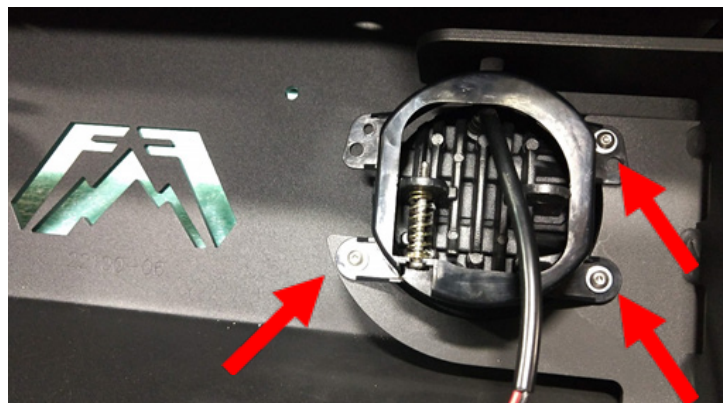

Figure 7
14. Using an 11/32" open end wrench, 3/32" Allen wrench, and three (3) of the provided #8-32 bolts, flat washers, and nylock nuts (50208-HW) reinstall the OEM fog lights to the brackets in the Fab Fours bumper. (22100) (Figure 7)